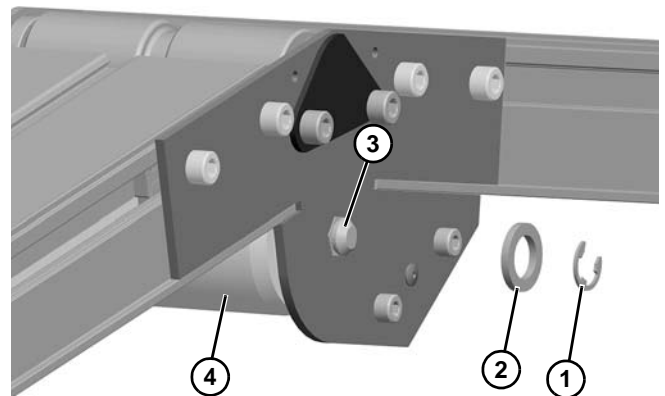

Figure 55
- a. For 2" (44 mm) through 4" (95 mm) wide conveyors, remove E-ring clip (**Figure 55, item 1**) and washer (**Figure 55, item 2**) from one side. Remove pulley shaft (**Figure 55, item 3**) and pulley (**Figure 55, item 4**).